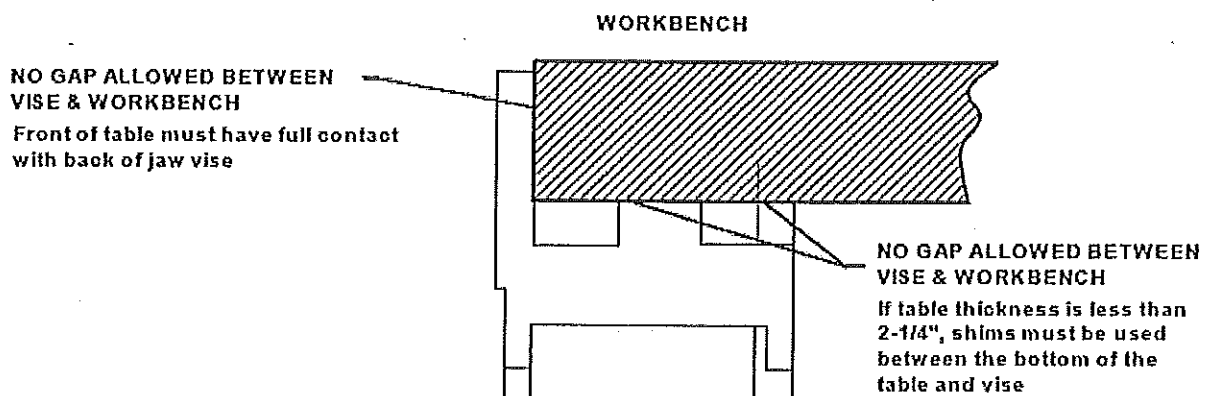

Figure 1: Mount Back Jaw Casting to Work Bench
- Any gaps between the casting and the workbench surface will cause flexing of the casting when tightened down, which could result in failure of the casting. Figure 1.
- **MOUNTING HARDWARE:** Use the #14 x 1-1/2" Counter-Sink Wood Screws (2) for the front edge mounting holes and the 5/16" x 2-1/2" Lag Screws (2) and the 5/16" Flat Washers (2) for underneath the workbench